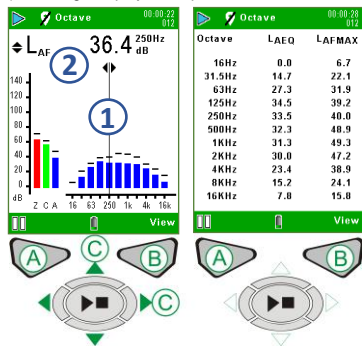

Figure 13 620 SERIES B (& C) Main Run Screens
**620 SERIES B Models (Refer to Figure 13).**
The 620 SERIES B model provides two additional octave screens shown in Figure 13. Use the **View** key (B) to toggle the four available screens. Use the **Left/Right** cursor keys (C) to move across the frequency bands (1) when in graphical view. Use the **Up/Down** cursor keys (C) to toggle between LMAX and LEQ Parameters (2).